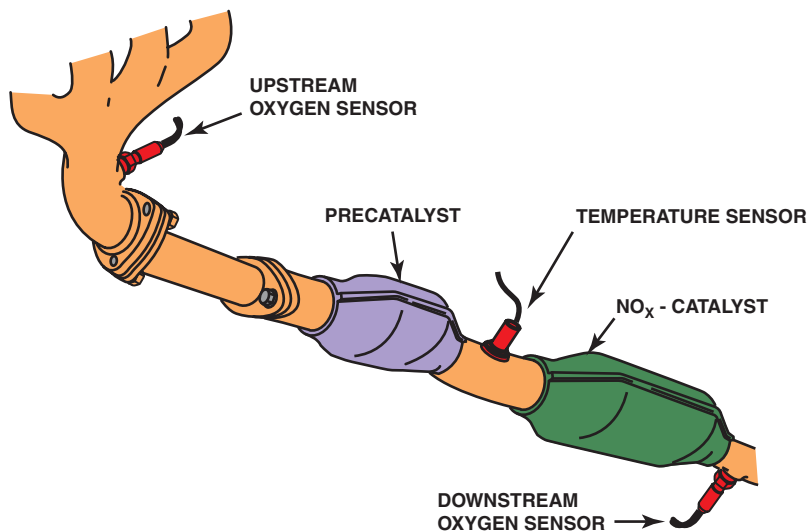

FIGURE 21-2 An engine equipped with a gasoline direct injection (GDI) sometimes requires a NO_x catalyst to meet exhaust emission standards.
- Because of the high compression, a NO_x storage catalyst is sometimes required to meet emission standards, especially in Europe. (● **SEE FIGURE 21-2**)